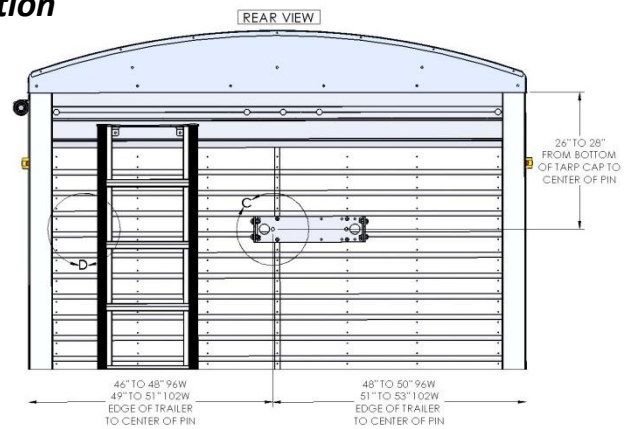

Figure 1. Rear end of trailer with dimensions.
1. On the rear of the trailer measure from the bottom of the tarp cap, straight down 27" and put a dry erase mark on the rear face of the trailer extending from center towards roadside approx. 2". See *figure 1*.